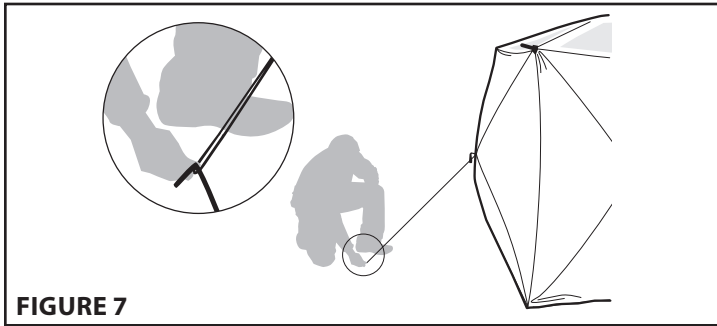

FIGURE 7
6. Move outside of your tent and begin securing your tent to the ground by using the provided stakes and tie down ropes. The stakes can be fastened through each of the tent grommets and the tie down ropes can be tied around hub eye-bolts and tightened to a stake in the ground. Use adjustment slides on the rope to achieve proper tension. [**SEE FIGURE 7**]